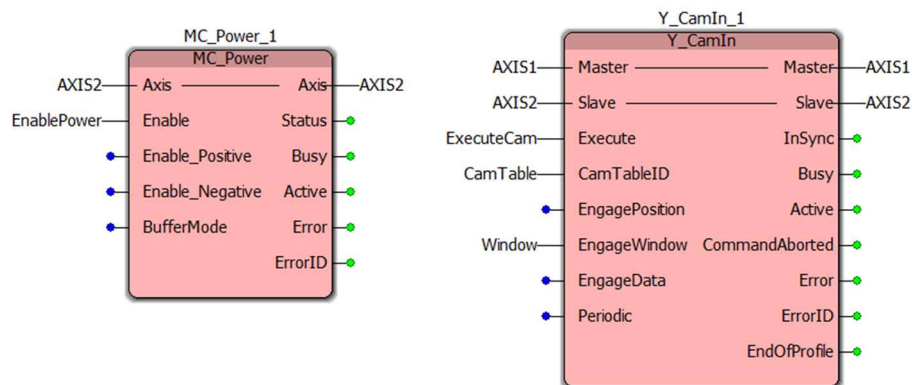

Figure 23: Complete MC_Power and Y_CamIn Blocks
- Remember that since we want AXIS2 to move on its own, we need to power it on with an MC_Power block. The end product (not including the FileSelect block) is shown in Figure 23.